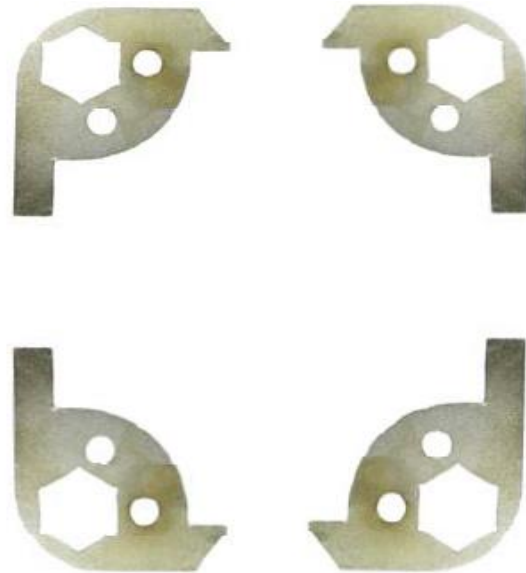

Figure 1. Spacer orientation
1. Using a $\frac{3}{4}$ " open ended wrench, remove the **Flange Nut** (P/N 0015-079-000) (C).
2. If replacing **Caster Assembly With Brake** (P/N 0702-001-013Q) (E), remove the $\frac{1}{2}$ " **Washer** (P/N 0011-004-004) (B) and set aside. If caster does not have a brake, proceed to step 3.
3. Remove either the **Caster Assembly Without Brake** (P/N 0702-001-012Q) (D) or the **Caster Assembly With Brake** (P/N 0702-001-013Q) (E) and set aside.
4. Place the **Steel Caster Spacers (P/N 0702-001-924)** on a **FLAT SURFACE** as shown in Figure 1 below.